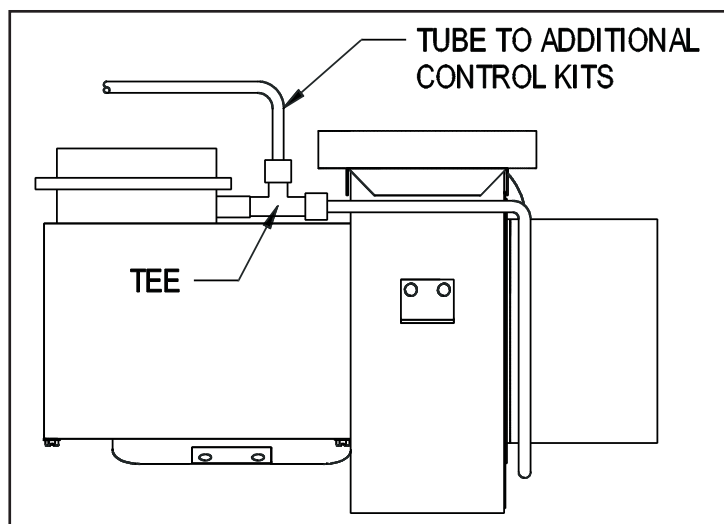

Figure 4
1. Connect the negative pressure port of each air pressure fan proving switch on all Control Kits being used to the provided tee mounted on the PVO. (See Figure 4)